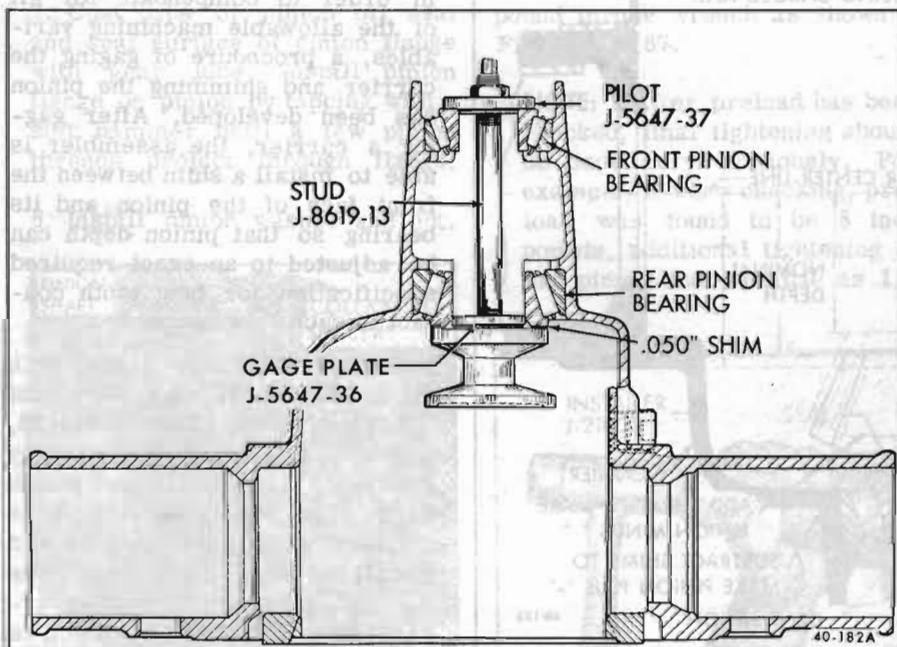

Figure 40-171—Installing Gage Plate in Carrier
2. Lubricate front and rear pinion bearings which will be used in final reassembly and position them in their respective races in the carrier. Thread Stud J-8619-13 into Gage Plate J-5647-36. With bearings held in place in races, install a .050" shim and gage plate and stud assembly on rear pinion bearing inner race. Install Pilot J-5647-37 on front pinion bearing with small diameter on raised portion of bearing race. See Figure 40-171.